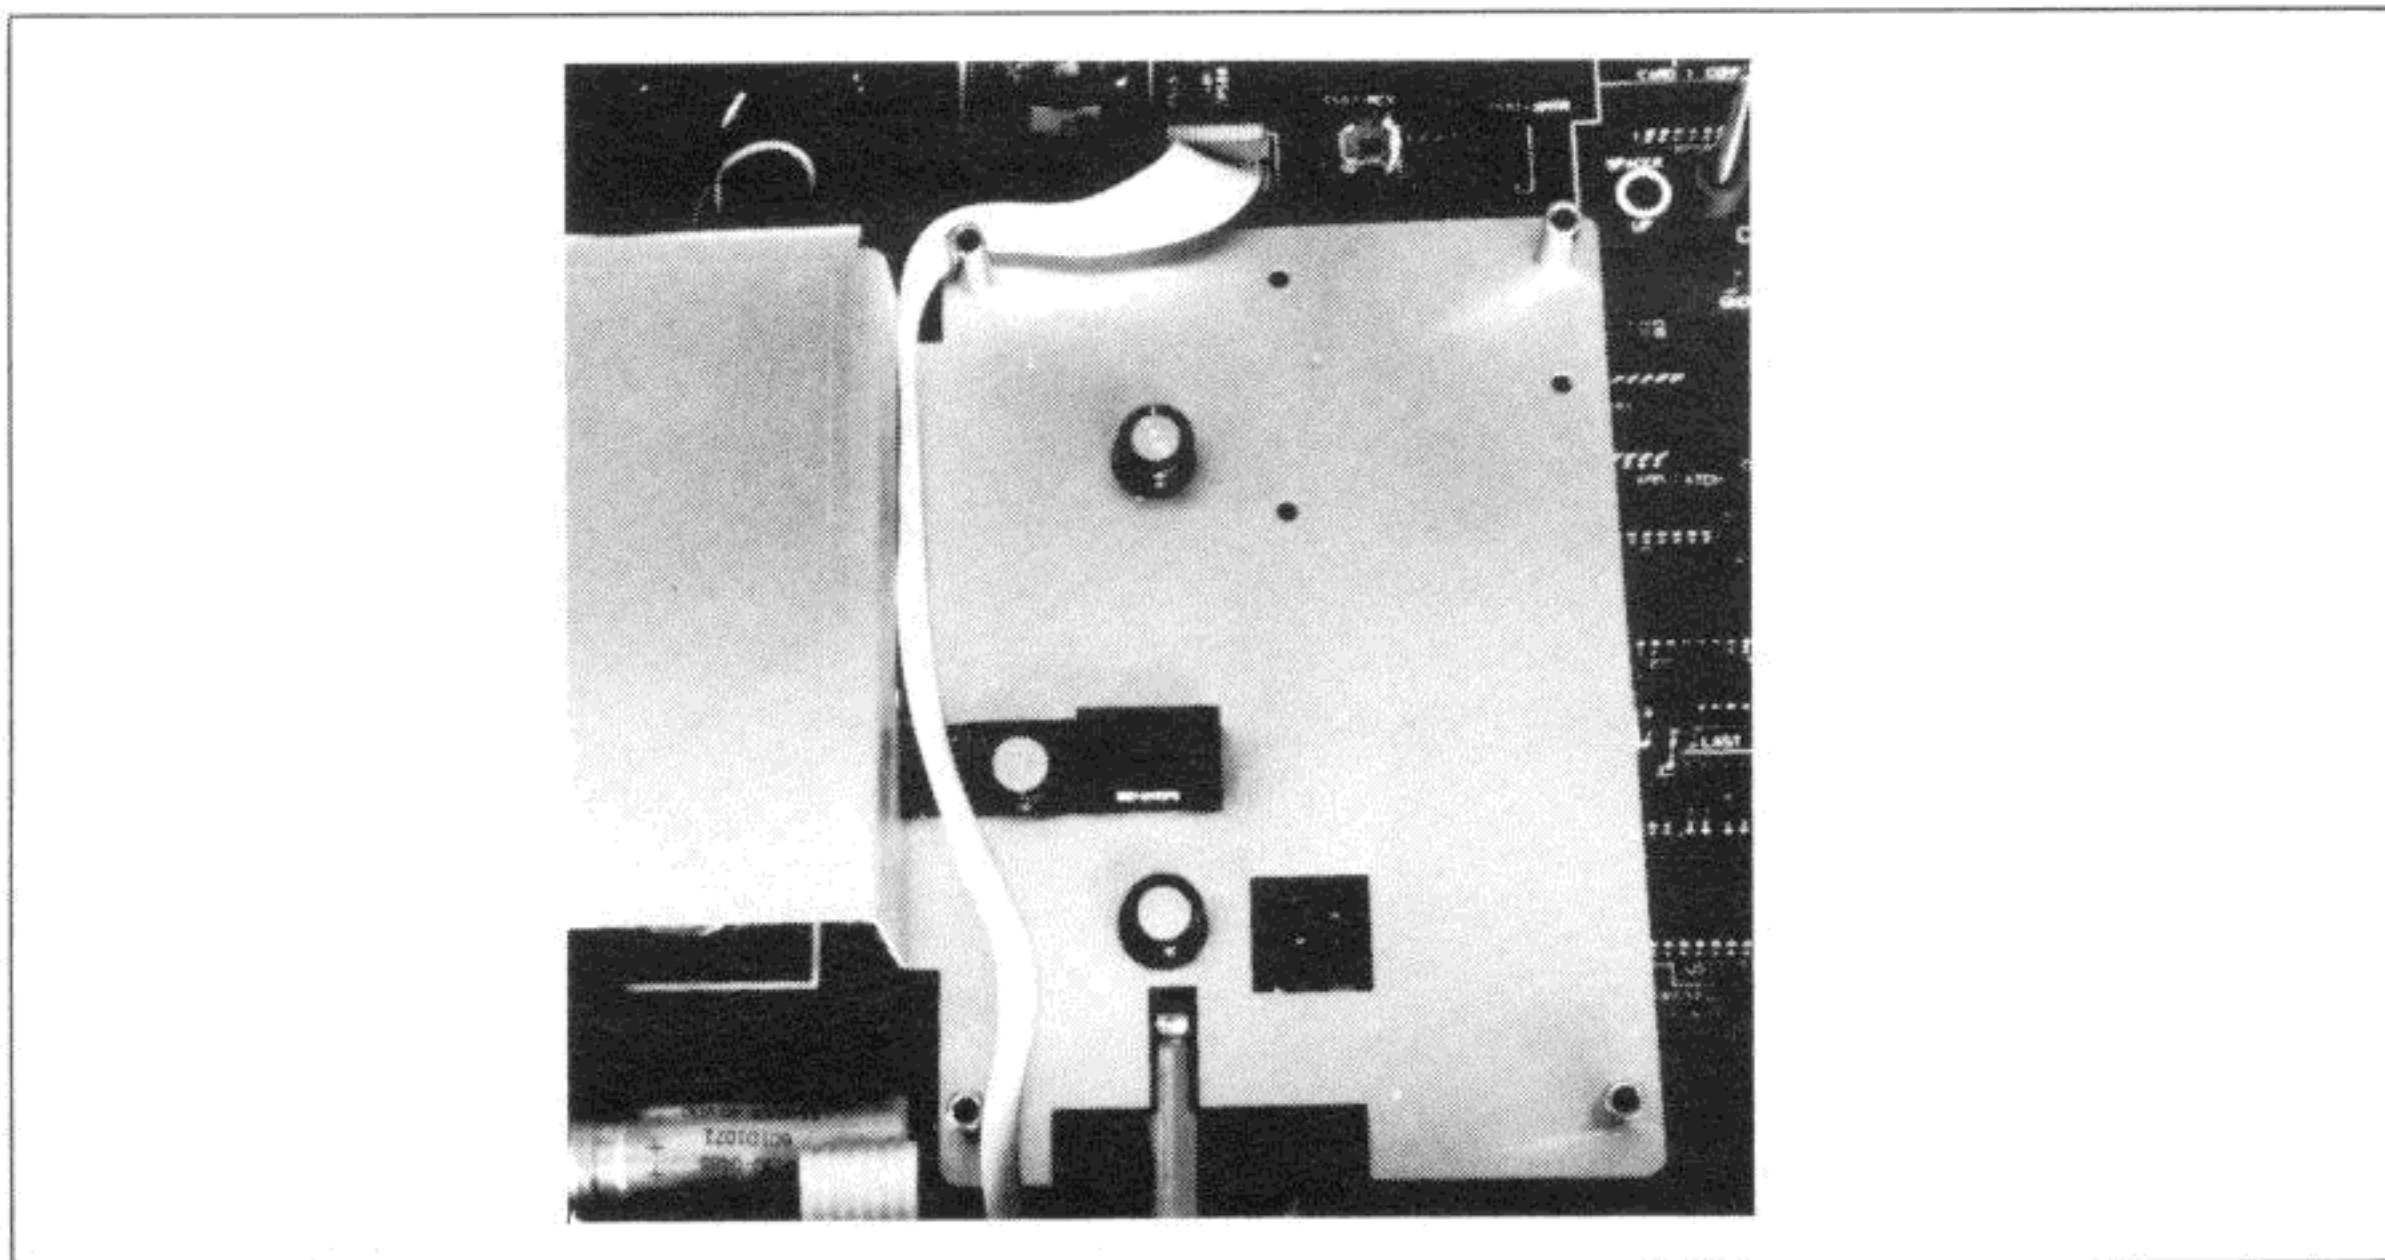

Figure 1-8-12. Slot 2 Option Cable Routing
c. Route the ribbon cable for the option that will occupy slot 2 around the shield stand-offs, as shown in Figure 1-8-12. This cable should be plugged into J502 on the motherboard with the red stripe oriented to the right (pin 7 of the connector).